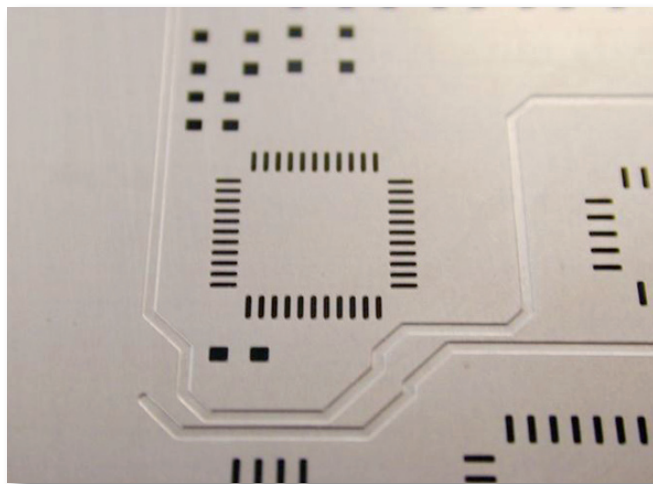

Figure 5: Additive trace relief pocket stencil.
4. PCB with additive traces. Additive traces are added to the surface of the PCB to correct a design problem by altering the lead wiring. Unfortunately, this trace adds height to the board surface. A stencil solution is to provide a relief pocket around the additive trace. An example of this stencil is shown in Figure 5.